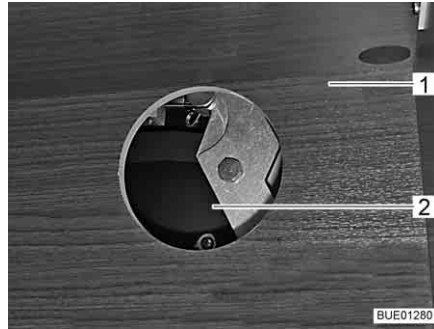

Fig. 117 Access to drive
- Depending on the model, open the flap of the wall-mounted cupboard (Fig. 117,1) and remove the cover from the access port (Fig. 117,2).